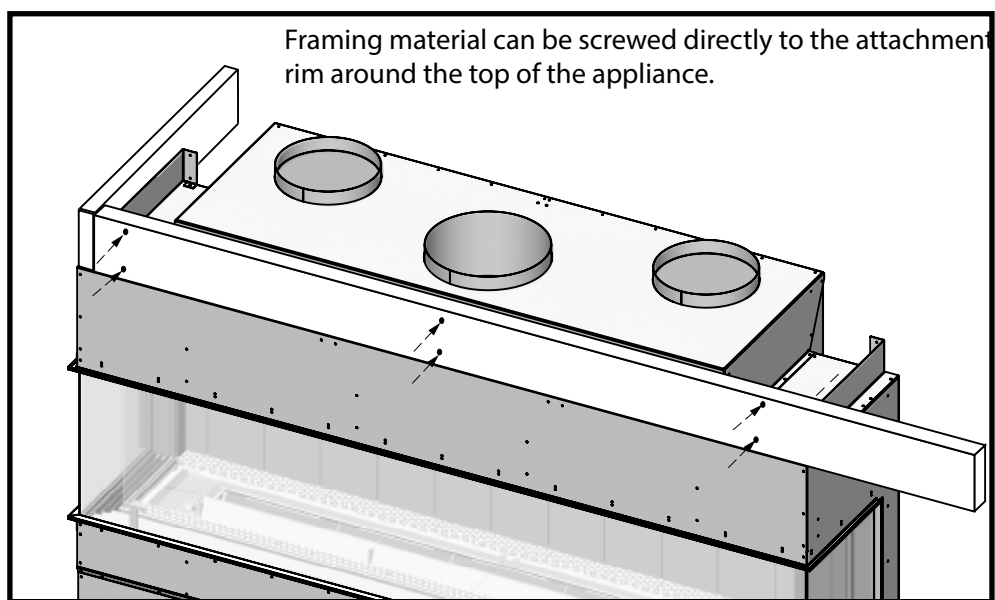

Figure 6: Stud securing points for Top Intake models.
1. When securing the top of the unit to the wooden studs, the screws must come through the metal framing from the center of the unit (Figure 6).
1. When securing wooden studs to the top of the unit, the screws can be secured through any part of the upper fastening area surface (Figure 6).